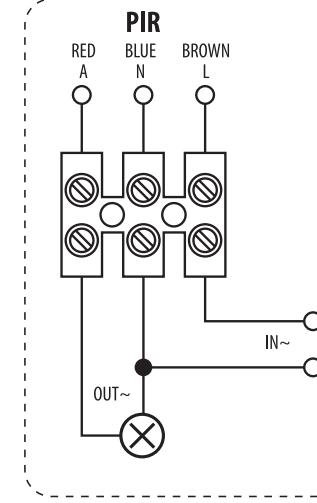

Fig. 2
- Connect the power cable to the sensor terminal (Fig.2).